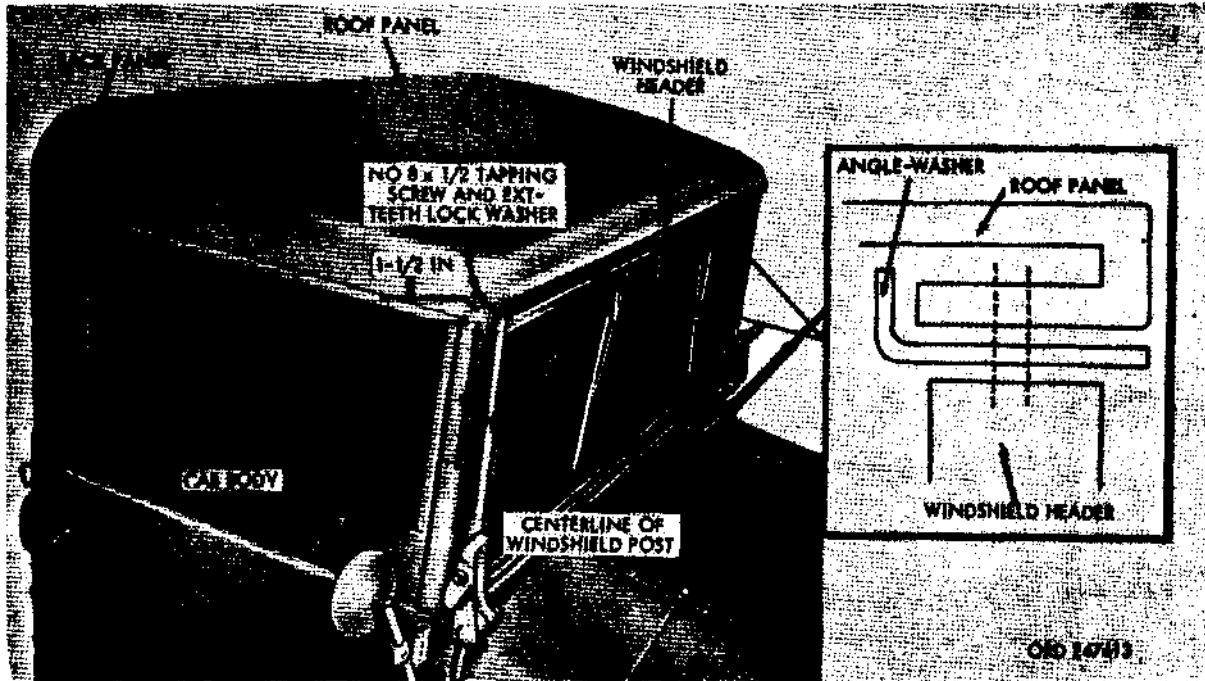

Figure 624. Roof panel installed
d. Roof panel (fig. 624) will be installed as prescribed in (1) through (6) below.
- (3) Secure the roof panel to the back panel with fourteen 1/4-20 x 3/4 bolts, 28 plain washers (14 bearing against roof panel and 14 against back panel), and 14 safety nuts. Do not tighten the bolts.
- (4) Close the cab windows and fit roof panel to top of window doorframe and to windshield posts. Install the two angle washers between the roof panel and the windshield header so that the hole in each washer aligns with the bolt holes in the roof panel and windshield header, and the flange on each washer faces up under the roof panel.
- (5) Secure the front of the roof panel to the windshield header (fig. 624) with two 3/8-24 x 2 bolts and safety nuts. Adjust windshield, if necessary. Do not tighten the bolts.
- (6) Drill a hole, with a No. 17 drill, on each side of the roof panel, along centerline of windshield post and 1-1/2 inches above bottom edge of roof panel. Secure roof panel to the windshield posts with two No. 8 x 1/2 tapping external-teeth lockwashers.
a. Roof Panel (Fig. 624).
- (1) Remove the two No. 8 x 1/2 tapping screws and the two external-teeth lockwashers from windshield posts. Remove the two safety nuts and bolts to loosen roof panel from windshield header. Remove the two anglewashers between the roof panel and the windshield header.
- (2) Remove the safety nuts, bolts, and washers that fasten the roof panel to